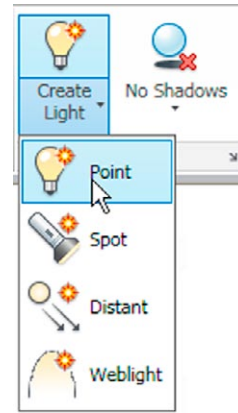
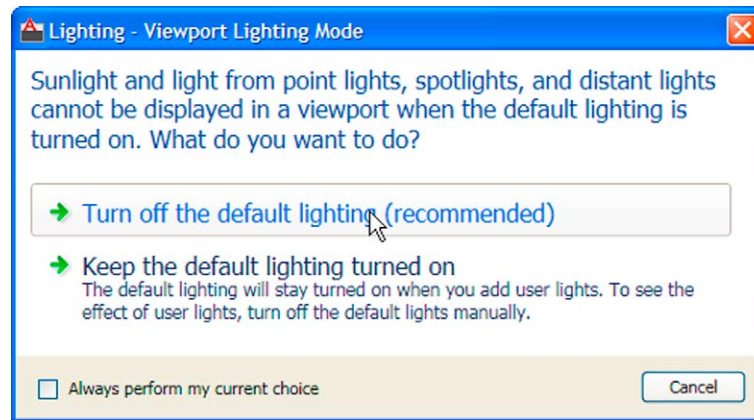
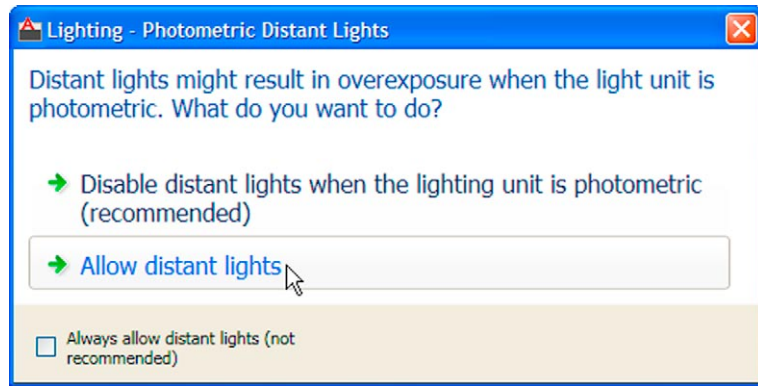

Fig. 15.21 The Point Light icon in the Render/Lights panel
Fig. 15.22 The Lighting – Viewport Lighting Mode warning window
Fig. 15.23 The **Photometric Distant Lights** dialog
3. *Click* the **Point Light** tool icon in the **Render/Lights** panel (Fig. 15.21). The warning window (Fig. 15.22) appears. *Click* **Turn off Default Lighting** in the window.
No matter which method is adopted the **Lighting – Viewport Lighting Mode** dialog (Fig. 15.22) appears. *Click Turn off default lighting (recommended)*. The **Lighting - Photometric Distant Lights** dialog then appears (Fig. 15.23). *Click Allow distant lights* in this dialog and the command line shows: